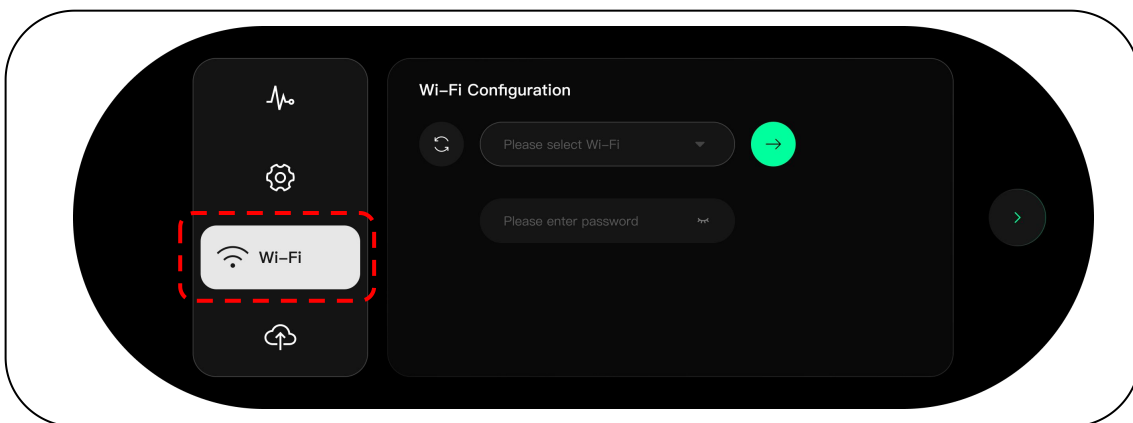

Figure 57
- 1) Touch the "WIFI" option in the menu bar, the display is shown in Figure 57.